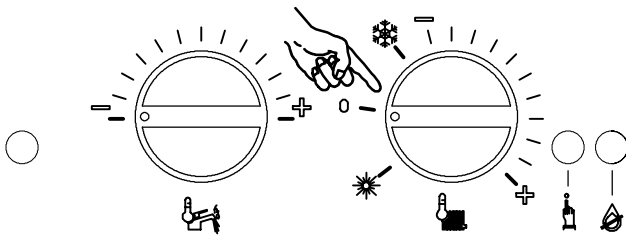

Fig. 59
- 1 Set the function selector of the boiler in stand –by mode (Fig. 59).